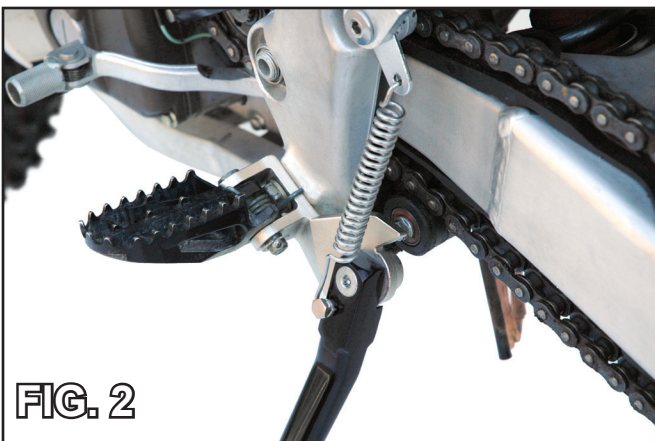

FIG. 2
6. Hook spring into spring hanger mounting tab shown in (Fig. 2)
7. Using safety glasses & a spring puller stretch the spring and latch it onto the stand arm mounting point. (Fig. 2)
4. Remove the stock side panel fastener and insert through the provided spring hanger tab. (Fig 2)